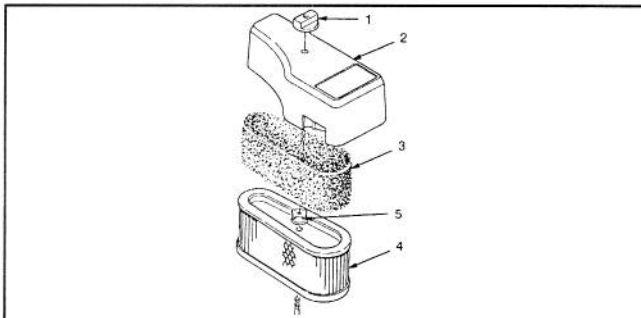

Figure 9
2. Remove the knob and air cleaner cover (Fig. 9).
3. Every 25 hours the foam pre-cleaner should be cleaned (Fig. 9). Remove foam pre-cleaner by sliding it off the paper cartridge (Fig. 9).
4. The paper air cleaner cartridge should be replaced every 100 hours. Remove one nut from the top of the paper cartridge (Fig. 9).